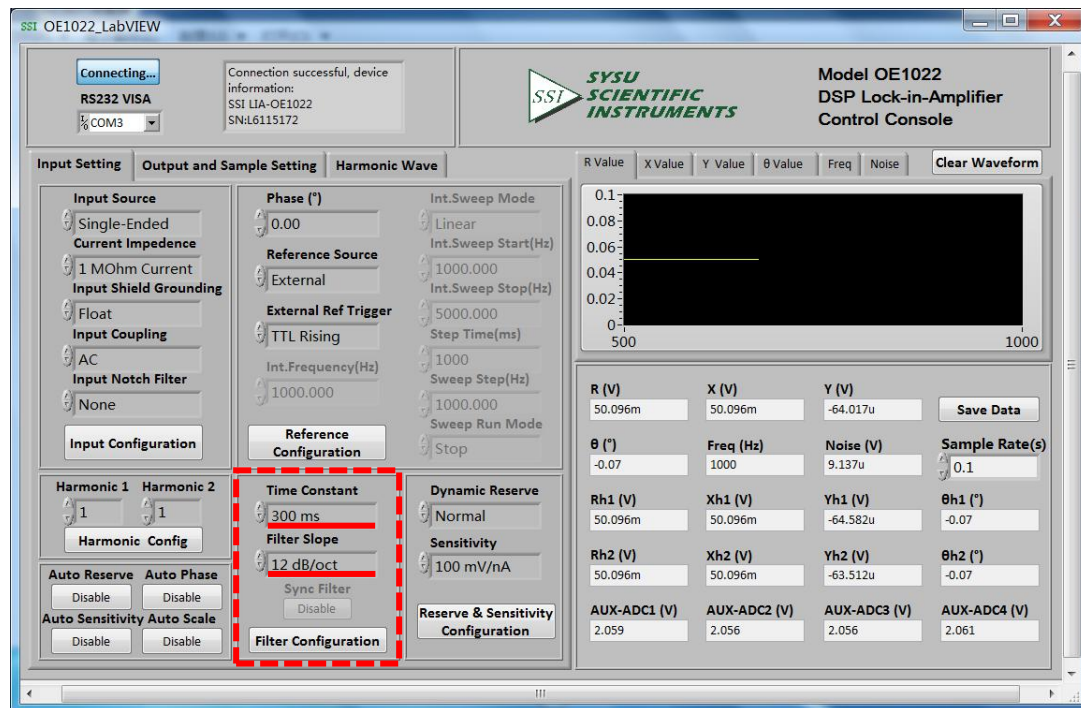

Fig.76 Filter Configuration
3. Choose these two options in "Filter Configuration", including "Time Constant" and "Filter Slope" with other options in default, as is shown in Fig.76. At last, click the button